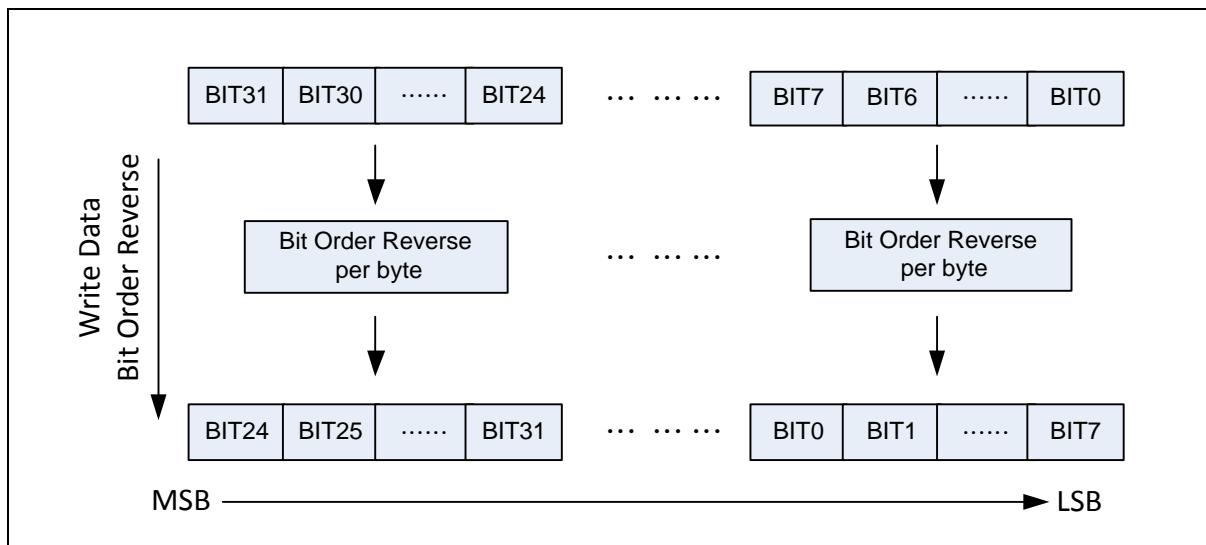

Figure 6.35-3 Write Data Bit Order Reverse Functional Block
- 3) Configure bit order reverse for CRC write data per byte by setting DATREV (CRC_CTL[24] Write Data Bit Order Reverse). The functional block is also shown in Figure 6.35-3.